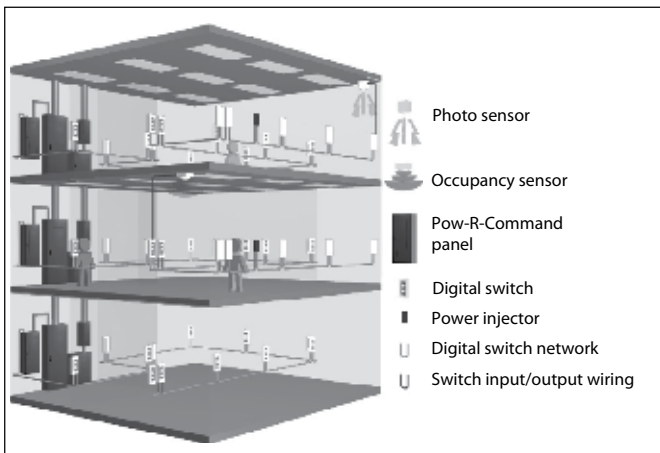

Figure 3-13. Lighting control in a commercial building
2. Layout panel as shown in **Figure 3-13**. Total "in." determine box height shown in **Table 3-42** (When total "in." units exceeds the number shown, use next size box size).
2. Layout information from **Figure 3-13**.